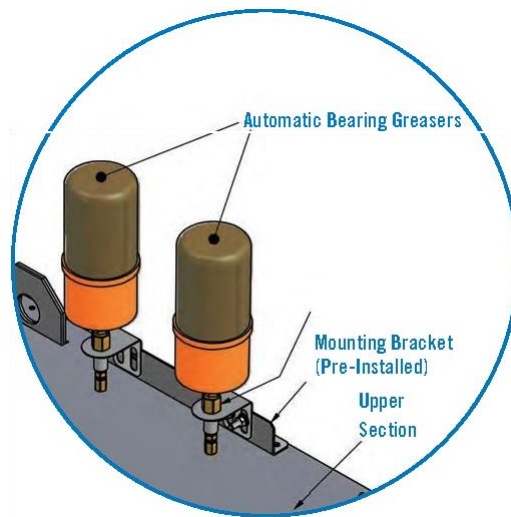

Figure 23. Automatic Bearing Greasers
1. If the safety cage is shipped in multiple pieces assemble the bottom flared section to the upper safety cage section. Secure with supplied hardware. See **Figure 23**.